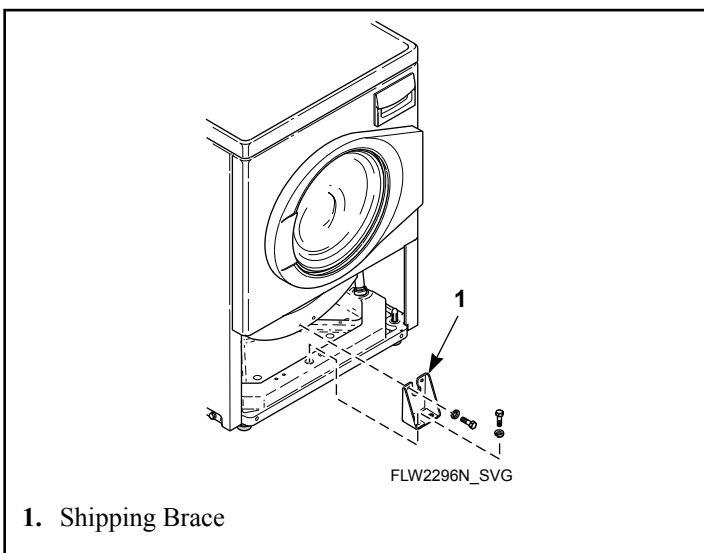

Figure 29
4. Attach shipping brace to weight and base using four bolts and washers. Refer to *Figure 29*.